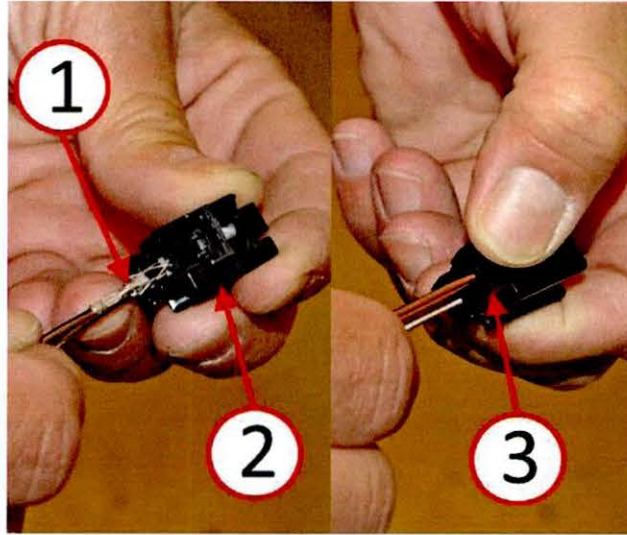

**Fig. 2 Insert Wire C15 Into Fuse Holder**
2. Insert terminal of wire C15 BR-WT (1) into fuse holder (2) then close terminal lock (3) (Fig. 2).